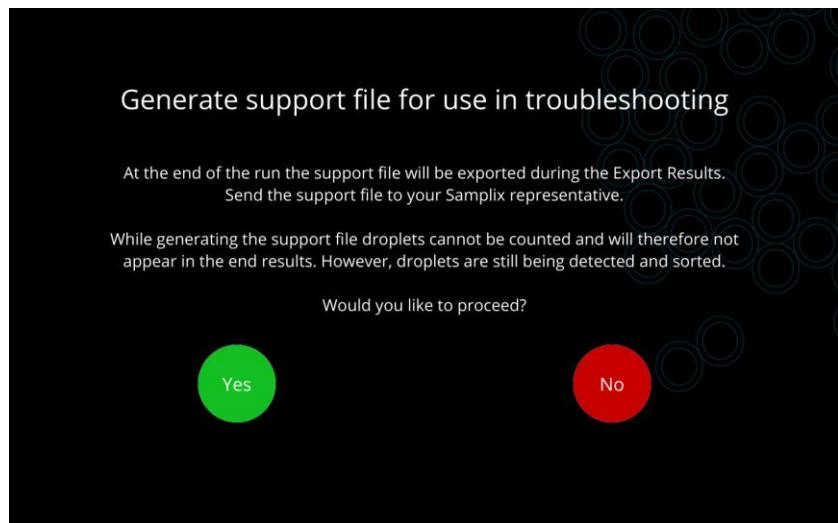

Fig. 3.15. The screen stating that during support file generation droplets cannot be counted and will not appear in the end results.
- A warning message will appear stating that during support file generation sorted droplets are not counted. Press **Yes** to continue (Fig. 3.15).